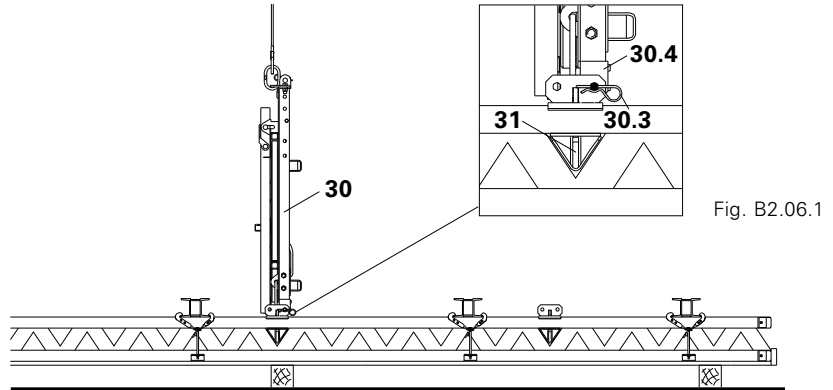

Fig. B2.06
1. Attach platform (30) to lifting gear and transport to assembly level.
3. Insert splice (30.4) into the platform connector (31) and secure in the lowest drilled hole.
- (Fig. B2.06 + B2.06.1)